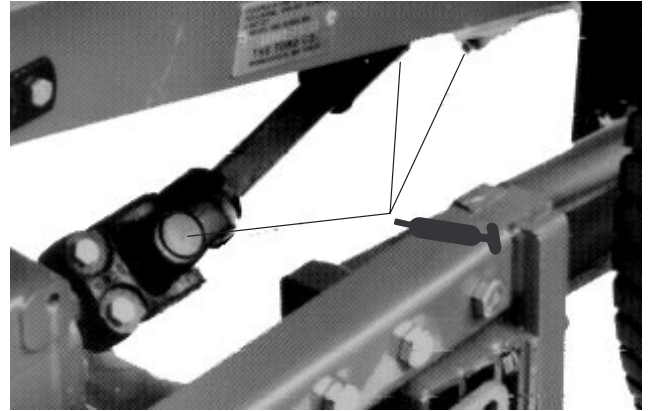

Figure 29
- PTO universal shaft (Fig. 29)